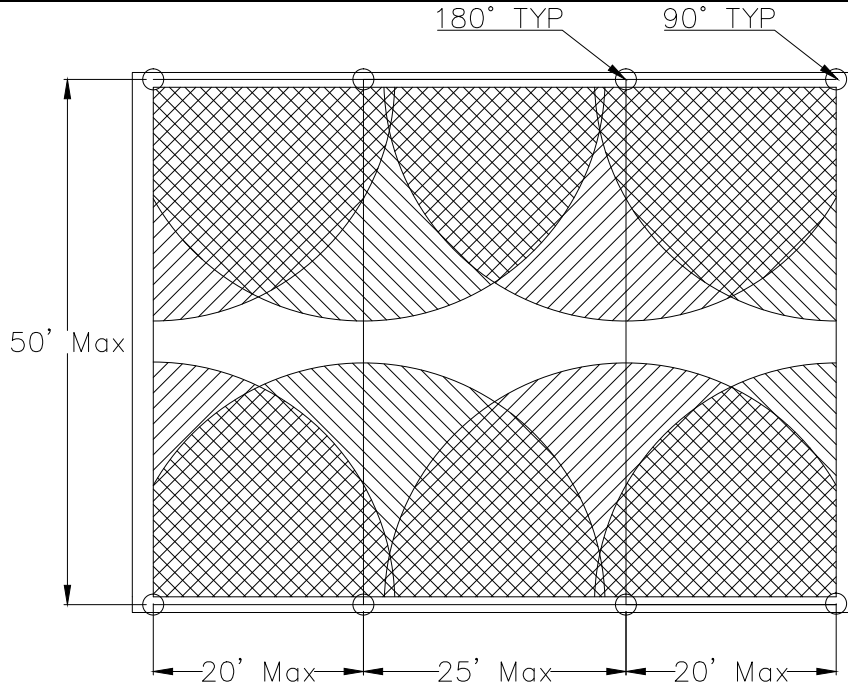

Figure 2a - Typical Nozzle and Trench Heliport using 90° Nozzles in Corners and 180° Nozzles in Centers
1. Refer to Figures 2a & 2b for an example of spacing Grate Nozzles. Standard practice is to locate the Grate Nozzles so that the maximum distance between nozzles in a trench is 25' and that trench drains are not located in excess of 50' on center, (20' maximum from walls). Configurations other than this may be acceptable, contact Viking for designs other than what is indicated.